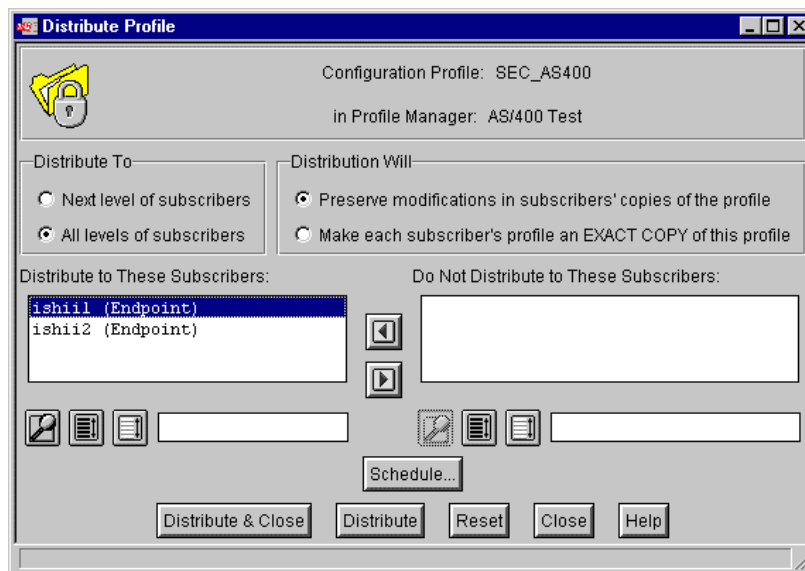

Figure 317. Distribute security policy
13. Choose the AS/400s to which you want to distribute the new login policy. In this case, we will choose ishii1 & ishii2 as shown in Figure 317.